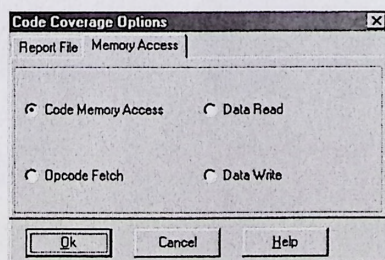

Figure 173. Code Coverage Options Memory Access Tab
3. Select the **Memory Access** tab (Figure 173).